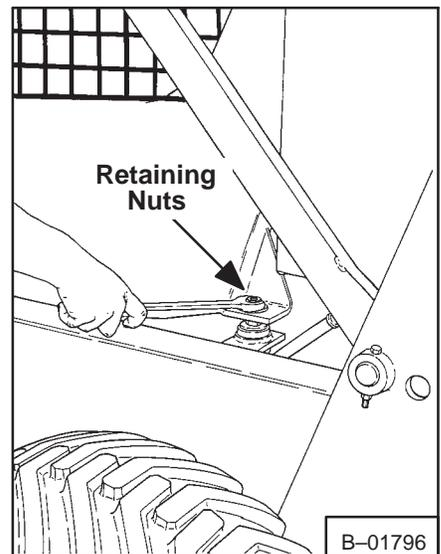

Fig. 1-7 ROPS Retaining Nuts
1. Remove the retaining nuts at the left and right rear corners of the ROPS (Fig. 1-7).
4. Remove the nuts on each side of the operator guard at the rear corners (Fig. 1-7).